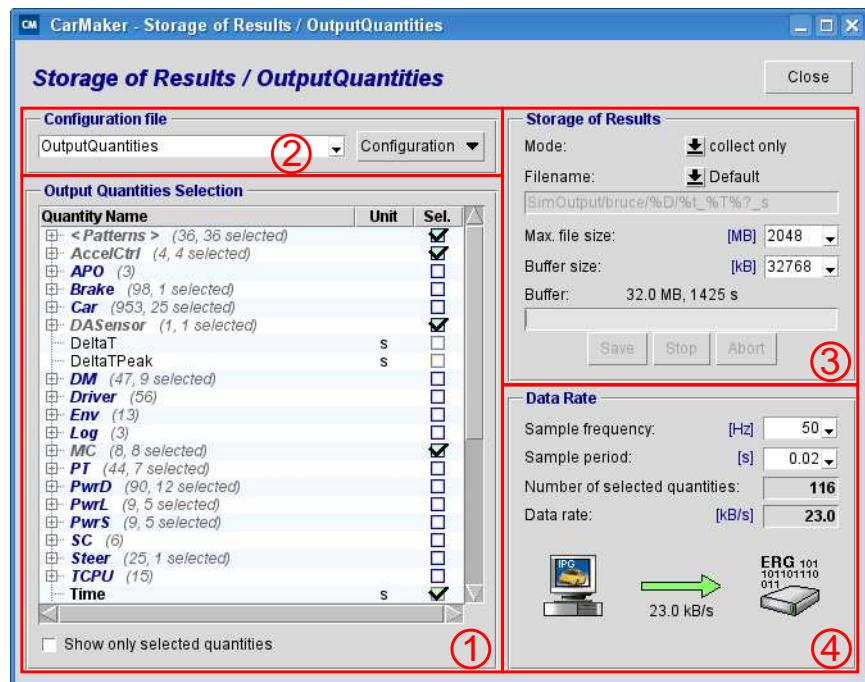

Figure 6.19: "Data Storage Browser"
In the Data Storage dialog you have the possibility to choose, which quantities calculated in your simulation you would like to save. You will find it under the menu *Application > OutputQuantities*. Every single quantity is listed in Figure 6.19 (see box 1). The quantities are divided into groups and sorted alphabetically.
By clicking on the button *Configuration* in box 2 in Figure 6.19, you have the options to create a new configuration file, to load an existing one or to delete the current configuration. The default configuration *Output Quantities* can not be deleted.
In the Storage of Results section (box 3 in Figure 6.19) you have the same possibility to configure the saving process like described in section 6.5.1 'Starting the Saving Process' on page 382. But at this place, two more options are available:
**Data Rate** In the *Data Rate* dialog (box 4 in Figure 6.19), you can define the sample rate of the results in Hertz (Hz) or seconds (s). By default, the sample rate is set to 50 Hz / 0.02 s.